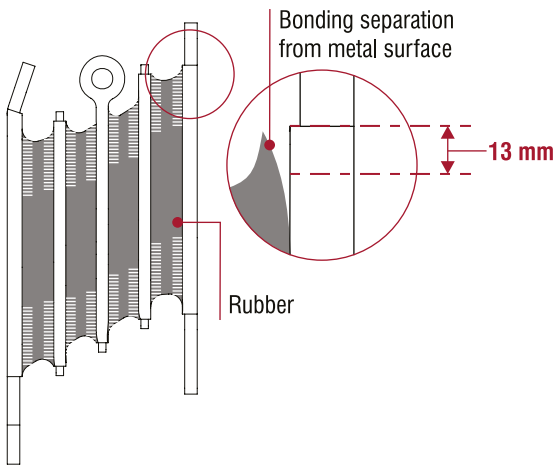

Figure 8: Inspect for Splits or Separation
- Cuts or Splits in the rubber of over 25 mm in length and an average depth of 10 mm are not acceptable and require tie-bar bolster spring replacement. In particular, look for signs of cuts or splits in the rubber at points indicated in Figure 8 as “/////////”.
- Bonding separation of the rubber from a bonded metal surface to a depth of up to 13 mm is acceptable. If any bonding separation is more than 13 mm deep, both bolster springs should be replaced on the affected side of the vehicle (refer Figure 8). An unloaded bolster spring may be inspected for any bonding separation by measuring at points indicated in Figure 8 as “/////////”. Any thin film or other residual rubber material on the metal plates resulting from the moulding process may be ignored during inspection.